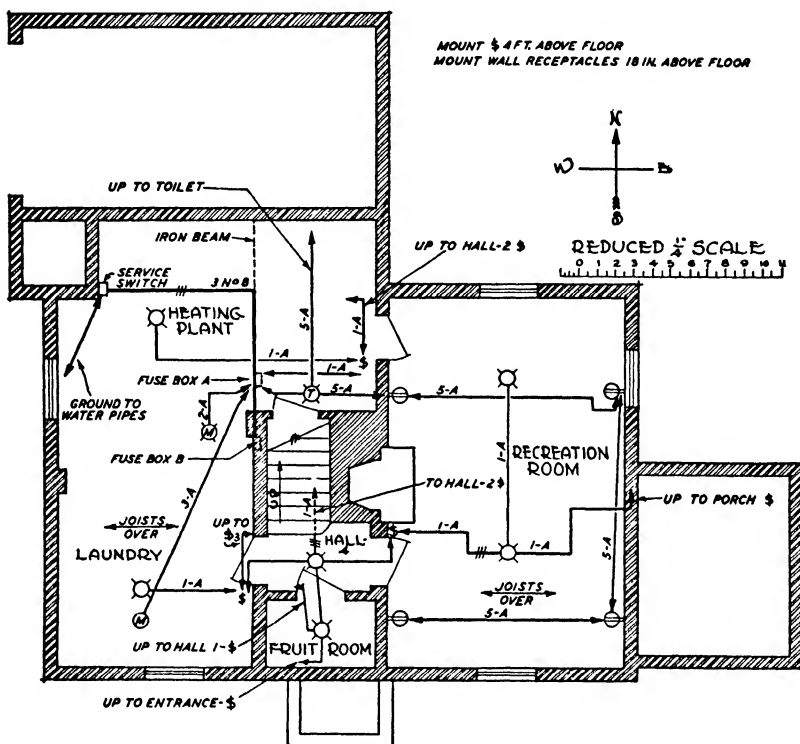
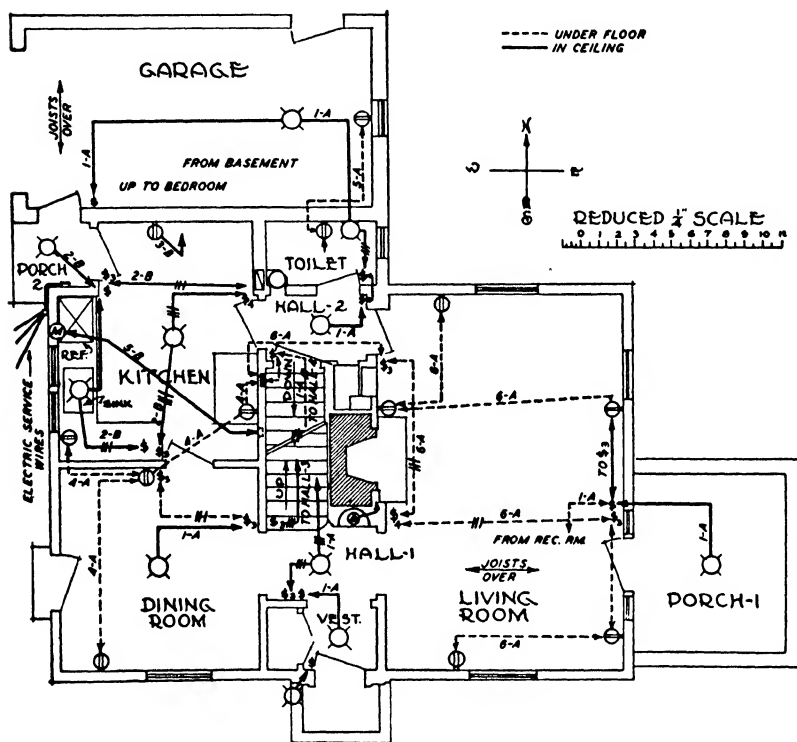
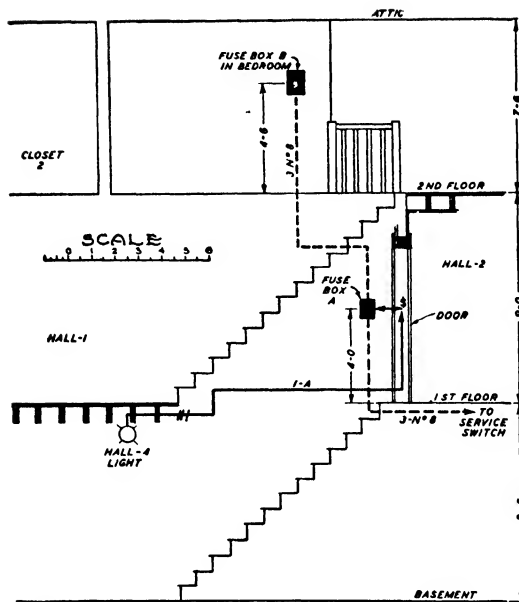

Fig. 2. Wiring Plan of Basement in 1½-Story Building
Fig. 3. Wiring Plan of First Floor of 1 1/2-Story Building
Fig. 5. Elevation Drawing Showing Location of Feeder to Fuse Boxes and First Branch Circuit
*Answer.* The electrical contractor, estimator, or engineer will retrace on thin vellum paper the building outlines and the location of all outlets, switches, etc., shown on the architect's blueprints, in order that he can plan the wiring from one outlet to the next. The building outlines for the 1½-story residence are shown in Figs. 2, 3, and 4. Sometimes it may be necessary to show an elevation of certain details that are otherwise hard to see. A drawing showing the stairs, fuse cabinets, height of floor, etc., aids in determining the vertical runs of wiring.
Circuit 1 will go from the fuse box A to the hall 4 switch, which is located on the outside of the door leading from hall 2 down the stairs to the basement, Fig. 5. The wires from this switch to ceiling outlet in hall 4 will be 3-conductor cable in order that one side of the circuit will not be controlled by the switch. This is indicated on the drawing by 3 short lines across the cable run, Figs. 2 and 5.
Then from ceiling light hall 4, a 2-wire cable goes to the fruit storage room ceiling outlet, Fig. 2. Here it branches, one run going up to the front entrance light switch in the vestibule, Fig. 3. From this switch the wires run through the wall to the bracket outlet on the outside of the building. Another branch from the fruit storage room outlet, Fig. 2, goes up to the hall 1 single-pole switch for the vestibule light and 3-way switch for hall 1 light.
A run of cable goes from hall 4 ceiling outlet to the switch in the recreation room, Fig. 2. From this switch, a 3-wire cable is run to the first outlet in the recreation room in order that current can be carried on up to the single-pole switch for controlling the light on porch 1, Fig. 3. This porch switch is located north of the window at the side of the door between the living room and the porch. From this switch, the wiring goes up the studding partition to the porch ceiling, and then across to the porch outlet.
There is another cable from hall 4 light outlet to the single-pole switch controlling the laundry light over the laundry tubs. Then a cable from this laundry light switch goes up through the ceiling to the 3-way switch at the side of the door between the dining room and hall 1 on the first floor, Fig. 3. There are two 3-way switches for controlling the light at the head of the
In the dining room, Fig. 3, there are three wires from one 3-way switch to the 3-way switch at the side of the door which opens into the kitchen, Fig. 3. This enables the dining room light to be turned on or off from either
It is more convenient to return back to fuse box A or to the single-pole switch in hall 2 for the rest of the circuit in the basement. There is a distance of only a foot or two between the fuse cabinet and switch box for hall 2 switch. It is better practice to run the circuit from fuse box A. This circuit (1A) then drops down the stair partition to the basement ceiling through the floor joists and over to the heating plant switch located at the side of the door between the heating plant and the recreation room, Fig. 2. The cable is run parallel to the floor joist from the wall switch to heating plant ceiling light. Then the cable is run from heating plant switch up through the ceiling of the basement to a wall switch located in hall 2 near the toilet room door,
**Fig. 3.** This switch controls hall 2 ceiling light, Fig. 6. A short loop of cable is made from this switch box through the partition to the switch controlling the toilet room bracket light. A 3-wire cable is run from this switch to the bracket light in order that current can be carried on to the garage ceiling light. From the garage ceiling light, two wires are run to the garage switch located near the door between porch 2 and the garage. This enables the garage lights to be controlled from near the door.
*Answer.* The only unusual feature is the living room convenience outlets or wall plugs which are controlled by two 3-way switches and a 4-way switch, Fig. 3. The switches are located near the doorways of this room so that a person entering the living room by any door can turn on the lamps connected to the wall plugs. The lighting in the living room will be by the use of floor lamps attached to the convenience outlet or wall plugs. A wiring diagram of this layout is shown in Fig. 7. Notice that there are 3 wires from the 3-way switch to the 4-way switch and on to the 3-way switch. Since
*Answer.* The six circuits from fuse cabinet B are called 1B, 2B, 3B, etc., and are laid out on the drawings in the same manner as circuit 1A. The ceiling lighting is placed on circuit 2B so if the electricians arrange the three-colored wire of the three-conductor No. 8 cable in the same order into fuse box A and B the ceiling light load will be about the same on each side of the 3-wire system. When the cable runs for all the circuits are completed the drawings will look like Figs. 2, 3, and 4.
Item 2 (Table 2) is from the switch at the basement door to light in hall 4, Figs. 2 and 5. This is a 3-conductor cable, since it was desired to feed outlets beyond the ceiling light in hall 4 from the same circuit and not have them controlled by this switch. The cable goes down from the switch alongside of a 2x4 and is pushed through holes bored in the 2x4's in the wall at the side of the stairs, then down through the top plate of the partition through the floor joist, and along the ceiling and floor joist over hall 4. The cable goes down 5 feet to the floor, south a distance of 13 feet, and then east 3 feet to the outlet. This, plus 2 feet allowance, gives a total of 23 feet. There are about 7 studs to be bored, a bottom plate and two floor joists. A cable strap will be used to support the 3-foot length of cable from the hall partition eastward to the ceiling light.
Item 3 (Table 2) is for the cable connecting hall 4 ceiling light with the fruit storage room light. The distance is approximately 4 feet, going through floor joists that are spaced approximately 16 inches apart. Three joists will have to be bored. There are two other leads of cable from hall 4 light outlet which are taken up after the end of the fruit storage room run is reached. At the fruit storage room outlet there are two branches. The first branch goes up to the switch in the front vestibule, Fig. 3, which controls the bracket
In Item 6 (Table 2) we return to the fruit storage room ceiling light, and follow the other branch up to the single-pole and 3-way switch in hall 1, Fig. 3. The single-pole switch controls the vestibule light, and the 3-way switch, the hall 1 light. The cables run 2 feet north, 1 foot west, and 5 feet up. Holes will have to be bored through two floor joists and a bottom plate. Item 7 is from the single-pole switch in hall 1, Fig. 6, up to the vestibule light. Cable is run up to the ceiling 5 feet, then 2 feet east along the floor joist, and 3 feet south. It is necessary to drill the top plate of the partition and two floor joists.
In Item 8 (Table 2) we return to the box having the single-pole and 3-way switch in hall 1, in which a 3-conductor cable is run up to the ceiling light in hall 1. This run goes up 5 feet to the ceiling, then 2 feet north, and 2 feet east. As the distance east is between 1 and 2 feet, only a 1 foot allowance is made for cable at the box, due to the fact that the cable would probably not be run clear up to the floor above. The height of the first floor from floor to floor is 9 feet, Fig. 5. Two of the wires do not make any connection in this box, as shown in Fig. 6. However two pigtail splices will have to be soldered and taped.
Item 12 (Table 2) is the cable from the recreation room ceiling outlet, 7 feet eastward, 3 feet north, 5 feet up to the switch on the east wall of the living room (Fig. 3), for controlling the porch 1 light. Two straps will be used to support the cable when running parallel to the floor joists. The two floor joists will have to be bored as well as one bottom plate.
Item 13 (Table 2) is for the cable from the single-pole switch, which is mounted in the same box as the 3-way switch for the living room wall plugs (Fig. 3) up to the porch 1 ceiling light. It is approximately 5 feet up, 5 feet eastward, and then 3 feet south. One strap will be used, one top plate, and three floor joists bored.
Item 14 (Table 2) returns to the ceiling outlet in hall 4, in the basement, Fig. 2, and will take the last branch from that outlet. This branch goes to the switch at the door opening into the laundry. This switch box will have to be set like the one in the recreation room, using Rowl plugs and a "Utility" box; also, Rowl plugs are used to strap the cable to the wall that comes down from the ceiling to the switch box. The cable is run 3 feet west, 2 feet south, and 4 feet down. A hole will have to be bored in only one floor joist.
Item 15 (Table 2) is for the cable going up from the laundry room switch to the ceiling and then parallel to the floor joist to the outlet over the laundry tubs. The cable is fastened to the side of the floor joists with straps which are nailed to the joists. In Item 16 we return to the laundry switch, and have another run of cable up to the ceiling and across to a point directly below the 3-way switch at the side of the door in the dining room, Fig. 3. The wiring connections at this switch are shown in Fig. 6. The cable is run approximately 4 feet north, 4 feet up from the switch to the ceiling, and 4 feet from the basement ceiling to the switch in the dining room.
Item 17 (Table 2) includes the 3-way switch from the east door of the dining room to the 3-way switch in the kitchen door of the dining room, Fig. 3, and the 2-conductor cable from the east door of the dining room 3-way
switch to the ceiling light. The 3-conductor cable is run down from one switch under the floor across to the other switch, as indicated by the dotted line, Fig. 3. Thus approximately 21 feet of 3-conductor cable is used for the switches, and 16 feet of 2-conductor cable from the switch up to the ceiling and across to the ceiling outlet. Approximately three floor plates will have to be drilled and four floor joists. Two straps will be used to fasten the cable where it is parallel to floor joists.
Item 20 (Table 2) returns back to fuse box A, as it is a little easier to run the cable from this box to the switch in the basement at the side of the door between the recreation room and the heating plant (Fig. 2) than to run the cable over from the wall switch in the recreation room. Also, it is an added advantage on long circuits like this one to divide the circuit into two parts at the fuse box, so in case of trouble on one section, disconnecting one wire at the fuse box would enable the good section to be quickly returned to service. This advantage should be used when it can be obtained without increase in wiring cost. The switch box for the heating plant light will use a utility box and be fastened with Rawl plugs. The cable required will be approximately 5 feet down from the fuse box, 6 feet east, and 2 feet north, then 4 feet down to the switch box.
Item 22 (Table 2) is for the cable from the heating plant switch, Fig. 2, up to the switch for hall 2 light (Fig. 3), located at the side of the door which opens into the toilet room. This cable runs 4 feet up the concrete wall to the ceiling, 4 feet north, up through the floor joist to the partition, and to the switch about 4 feet above the floor. One Rawl plug will be used and four holes will be bored in the floor joist and top plate.
Item 23 (Table 2) is for the cable from hall 2 switch to the ceiling light. The diagram of the wiring of this switch and light is shown in Fig. 6. Item 24 is for the cable from hall 2 switch in the wall as shown in Fig. 3 to the switch controlling the toilet light. These switches are near the door frames where double studs are often used, so it may be necessary to bore four holes.